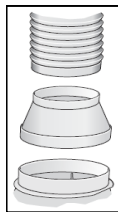

Fig. 6.1
- Secure both joints appropriately (Fig. 6.1).